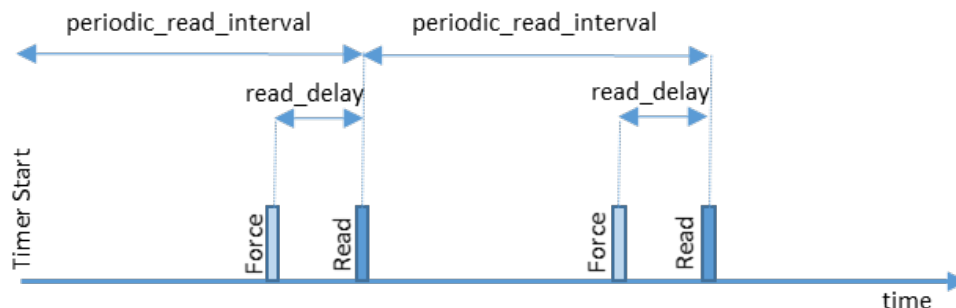

Figure 15: TIMED Sensors Timeline
- Figure 15 illustrates the timeline of a TIMED device to help users further understand the difference between `force_read_fn` and normal `read_fn`.